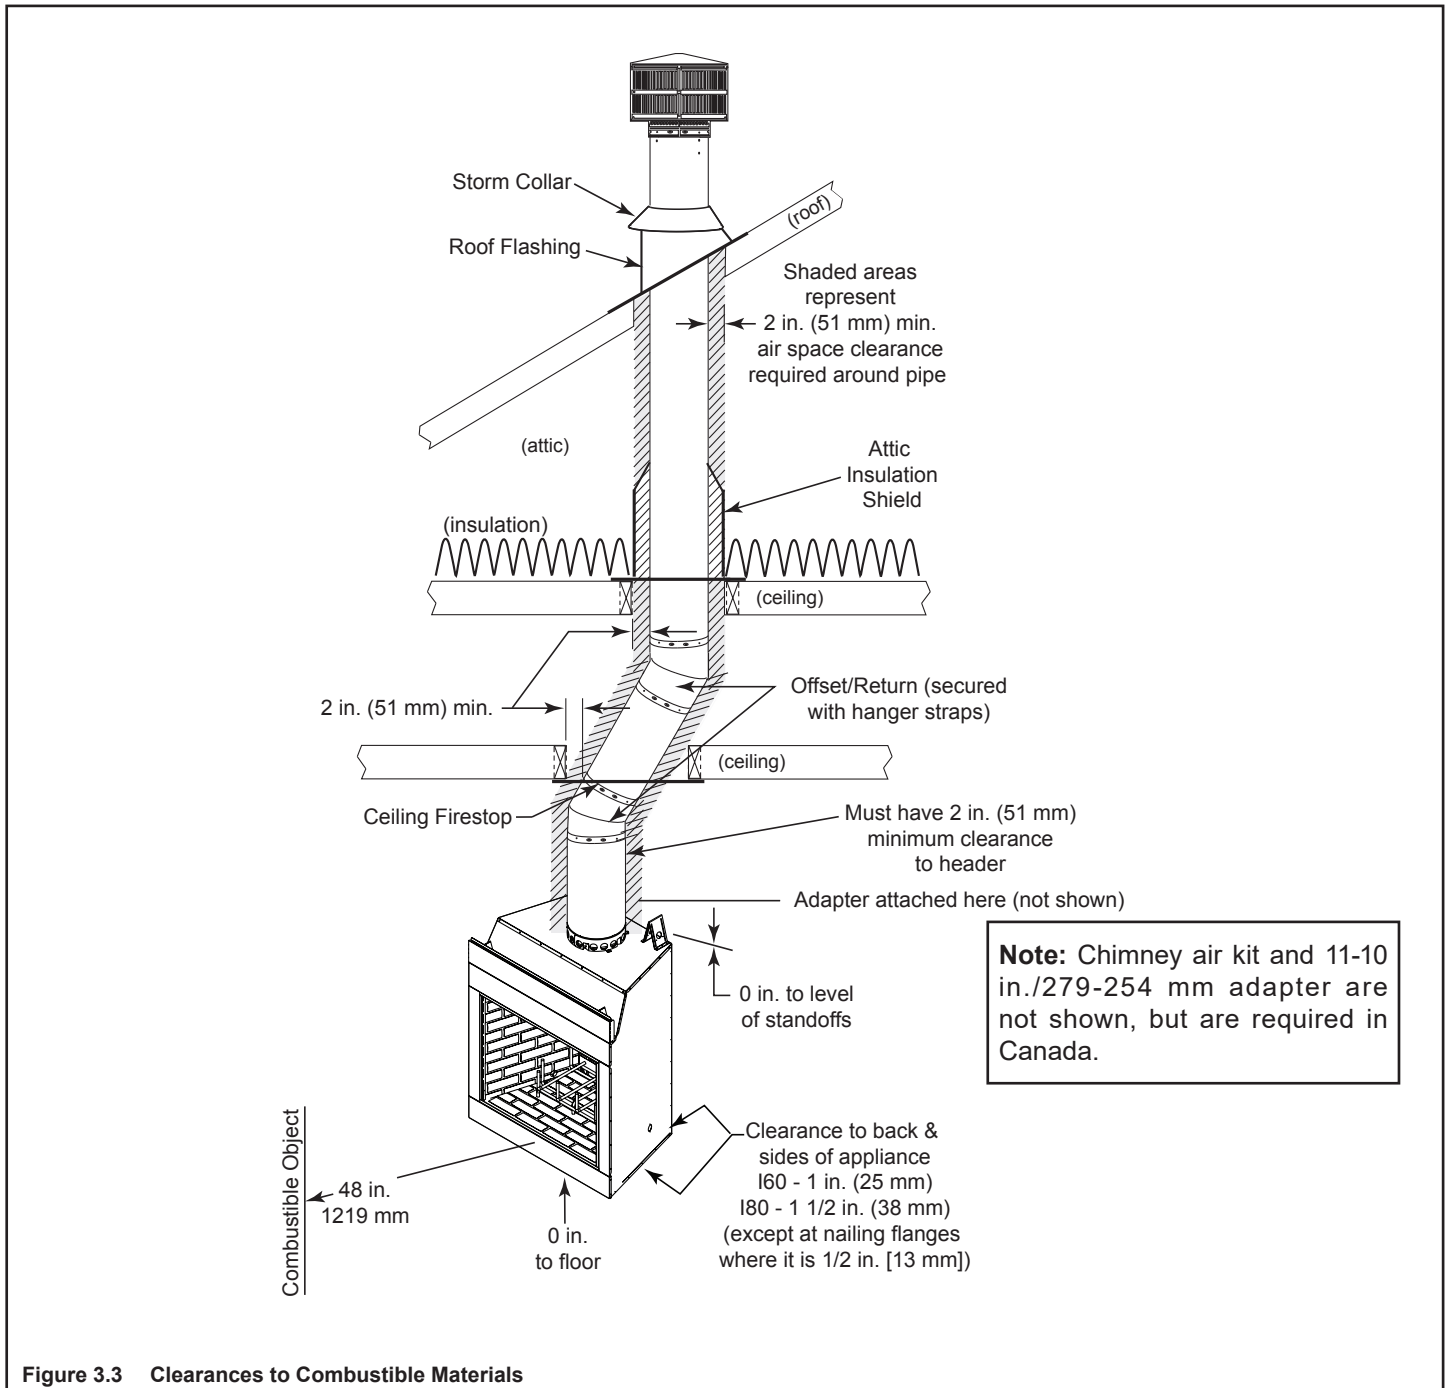
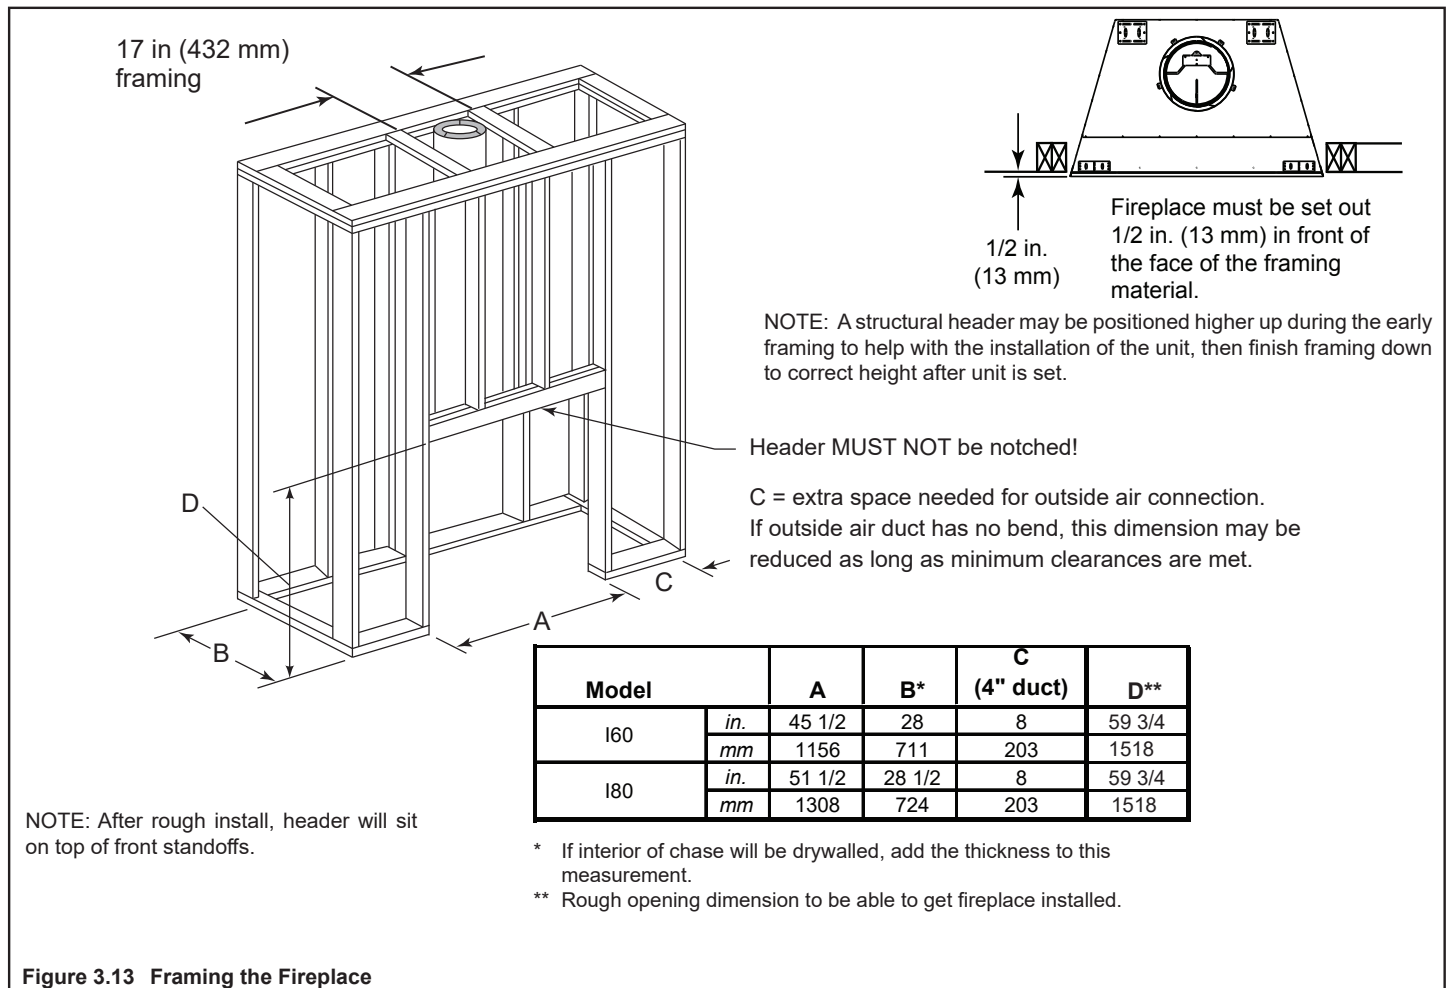

Figure 3.3 Clearances to Combustible Materials
Figure 3.13 Framing the Fireplace
Walls, ceiling, base plate and cantilever floor at the first level of the chase should be insulated (see Figure 3.3.) Vapor and air infiltration barriers should be installed in the chase as per regional codes for the rest of the home. Additionally, Hearth & Home Technologies recommends that the inside surfaces be drywalled and taped (or the use of an equivalent method) for maximum air tightness.
- In cold climates, the walls of the chase should be insulated to the level of the false ceiling as shown in Figure 3.3. This will help reduce heat loss from the home around the fireplace.
Figure 3.13 shows a typical framing (using 2 x 4 lumber) of the fireplace, assuming combustible materials are used. All required clearances to combustibles around the fireplace must be adhered to. See Figure 3.3. Any framing across the top of the fireplace must be above the level of the top standoffs.